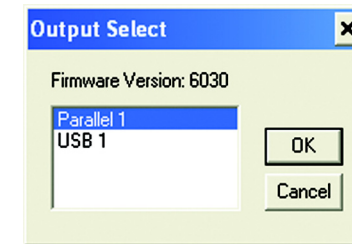

Figure 8-2: Output Select
1. Run the **Add IPP Port program** entry created by the installation. A screen like the one shown in Figure 8-2 will be displayed.
4. Click **Select Device Port** to view the available ports on the IPP Server, and select the appropriate port. (See Figure 8-2.) A connection to the IPP Server will be established at this time.